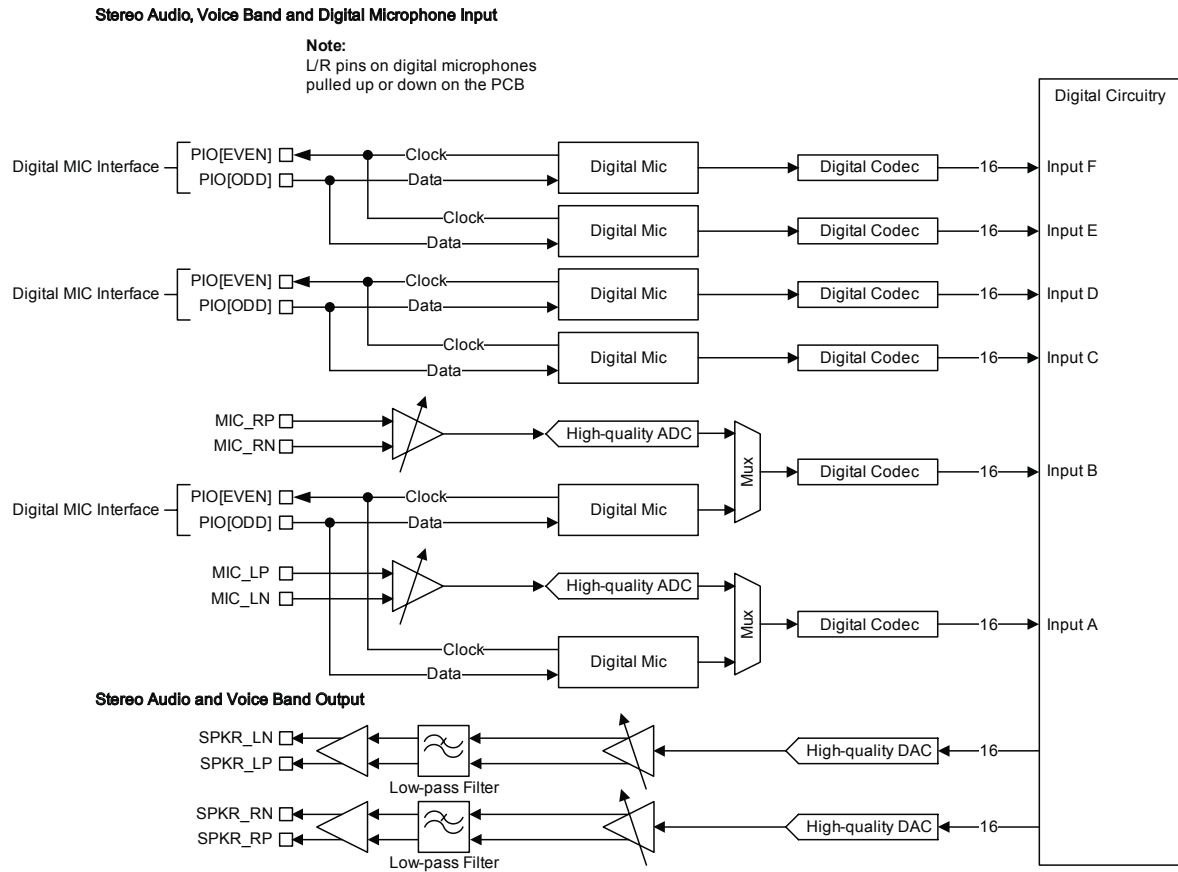

Figure 9.2: Audio Codec Input and Output Stages
Figure 9.2 shows the CSR8670 BGA consists of 2 high-quality ADCs:
- 2 fourth-order Sigma-Delta converters enabling 2 separate channels that are identical in functionality, as Figure 9.2 shows.